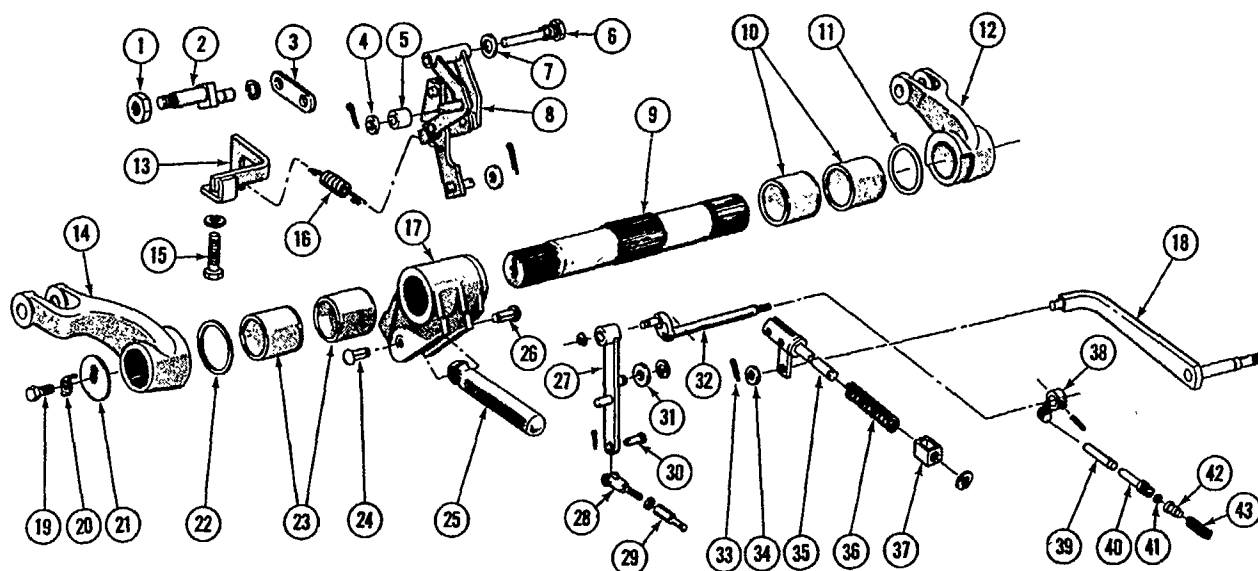
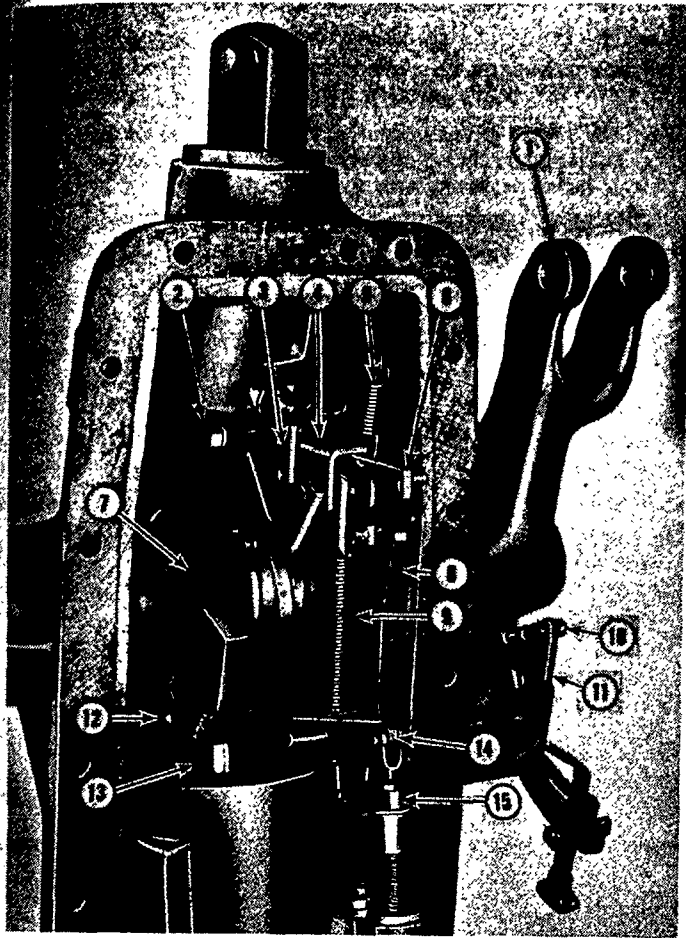

Figure 30
Figure 31
6. Clean the lift cover around the gasket joint and remove the fifteen bolts which secure the lift cover to the rear axle center housing. Using a suitable hoist attached to the lifting bracket, raise the lift cover assembly clear of the center housing approximately 3-1/2 inches (88.9 mm) to detach the strut from the selector linkage assembly, (8), Figure 30.
An exploded view of the lift cover assembly is shown in Figure 30. Refer also to Figure 31.
3. Disconnect the selector lever clevis (10), Figure 31, from the selector actuator arm (11) by removing the cotter pin and clevis pin.
6. Remove the tension spring (16), Figure 30, connected to the spring retainer (15) and selector linkage assembly (8).
7. Disconnect the control rod and roller assembly (35), Figure 30, from the selector arm (18) by removing the cotter pin and washer.
12. Remove the draft control adjustment screw retaining nut (1), Figure 30, and externally, the lift position control pivot shaft (6). Remove the selector linkage assembly (8) by disengaging the draft control connector link (3) and lifting the linkage out of the lift cover.
14. To remove the lift cross shaft (9), invert the lift cover on the stand so that the lift cylinder is underneath.
2. Position the two lift shaft bushings (10), Figure 30, on the lift cross shaft and, using the shaft as an installing tool, install the bushing by tapping the end of the shaft with a soft headed hammer until the outer bushing is flush with the housing.
5. Position the cross shaft washers (21), Figure 30, on both sides, install the tabbed lock washers, and tighten the bolts on the ends of the shaft equally until the lift arms will just drop under their own weight. Lock the bolts with the lockwashers.
8. Position the selector linkage assembly (8), Figure 30, in the cover and engage the draft control connector link (3). Install the lift position control pivot shaft (6), from the outside of the cover to secure the selector linkage assembly. Install the adjustment screw retaining nut (1).
9. Position the control rod spring (36) on the control rod and insert the rod through the lift rod connector (37) installed on the control valve actuating lever (27). Compress the spring and install the retaining ring on the end of the control rod.
10. Position the control valve actuating lever and rod and roller assembly on the control lever shaft (32) and secure with the snap ring.
11. Connect the rod and roller assembly to the selector arm (18) with the cotter pin and washer.
12. Install the lift piston connecting rod (25) and attach it to the ram arm (17) with the two retaining pins.
14. Install the tension spring between the spring retainer (13), and selector linkage assembly (8).
16. Install the selector actuator arm (11), Figure 31, on the selector lever arm and secure with the anchor nut.
17. Connect the selector lever clevis (10), Figure 31, to the selector actuator arm (11) with the clevis pin and cotter pin.